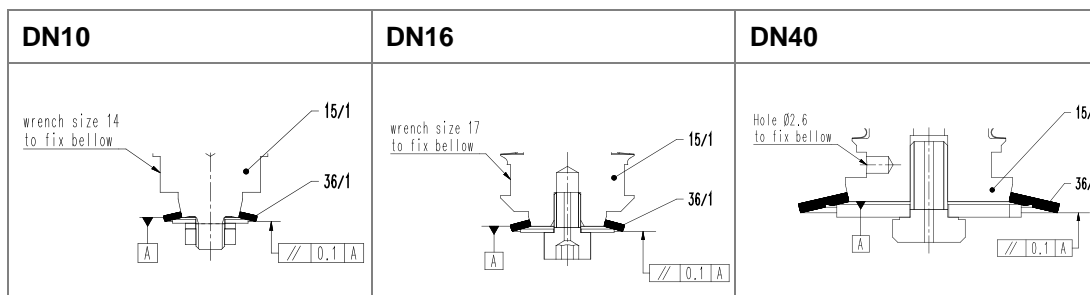

Figure 7-2
2. Remove the bonnet screws (68).
When loosening and tightening the screw (67) or nut (65) protect the bellows against torsion with hole or wrench size; see «Figure 7-2» on page 19.
7. Remove the screw (67) or nut (65).
8. Remove the washer (66). Only valid for DN10.
9. Remove holding ring (62).
18. Protect bellows against torsion with hole or wrench size; see «Figure 7-2» and tighten screw (67) or nut (65) with the following torque: